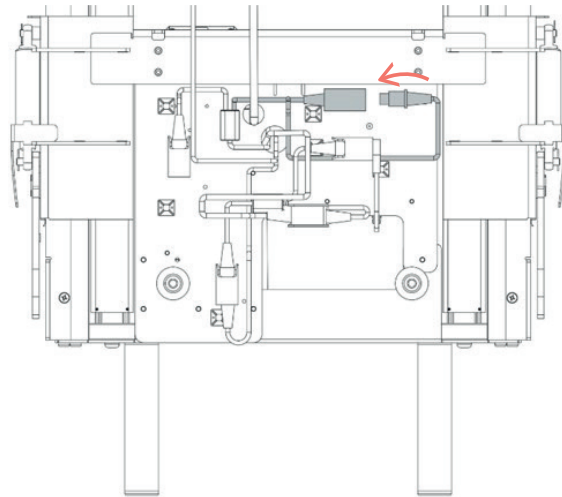

Fig 12.1a
- Looking at the rear of the product, locate the female connector, as shown in Fig 12.1a.